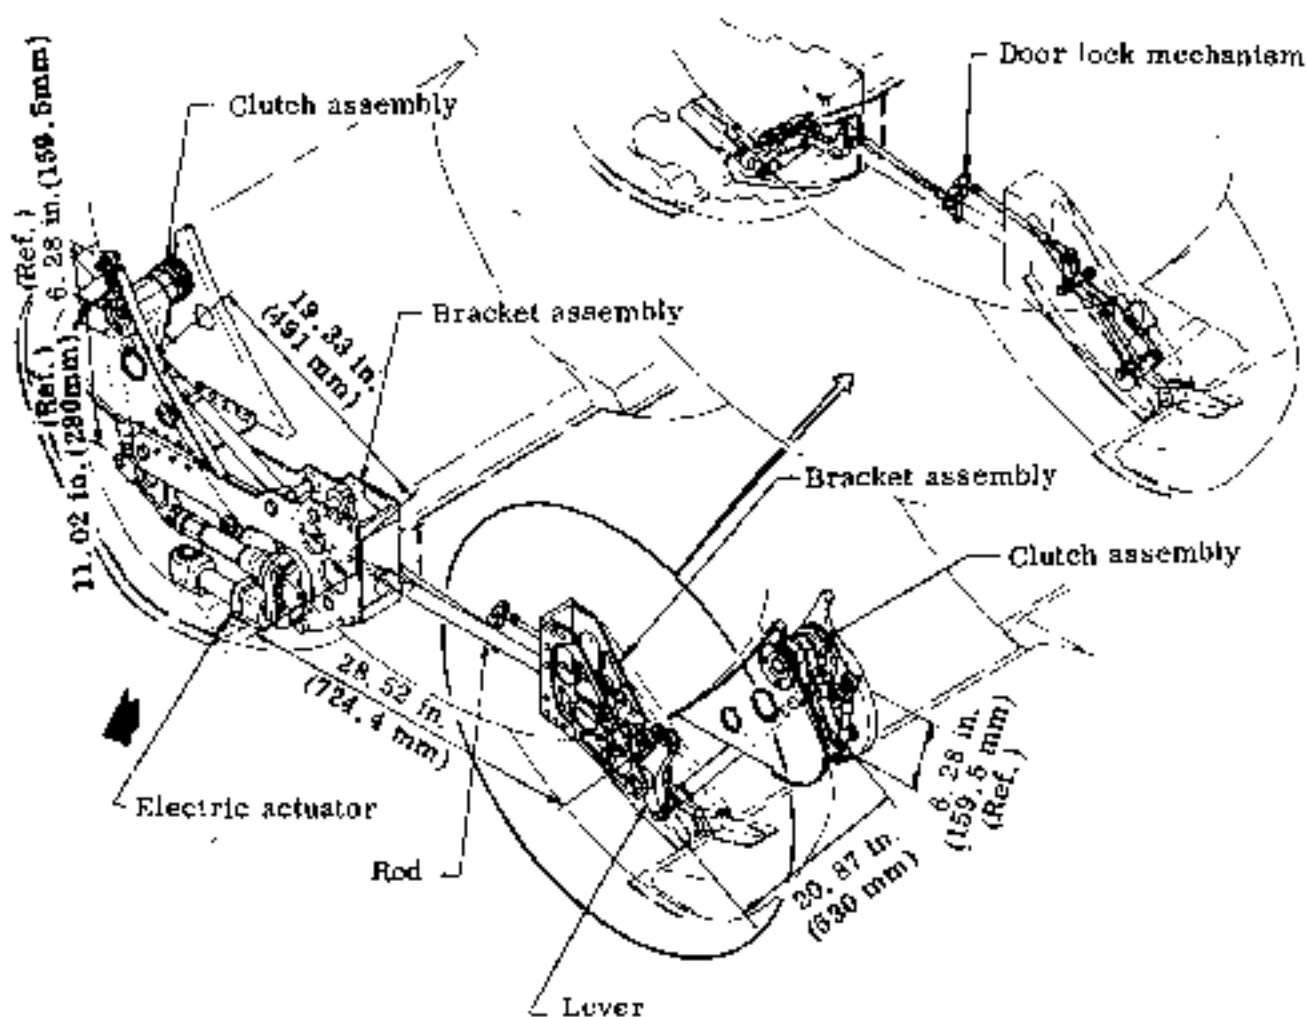
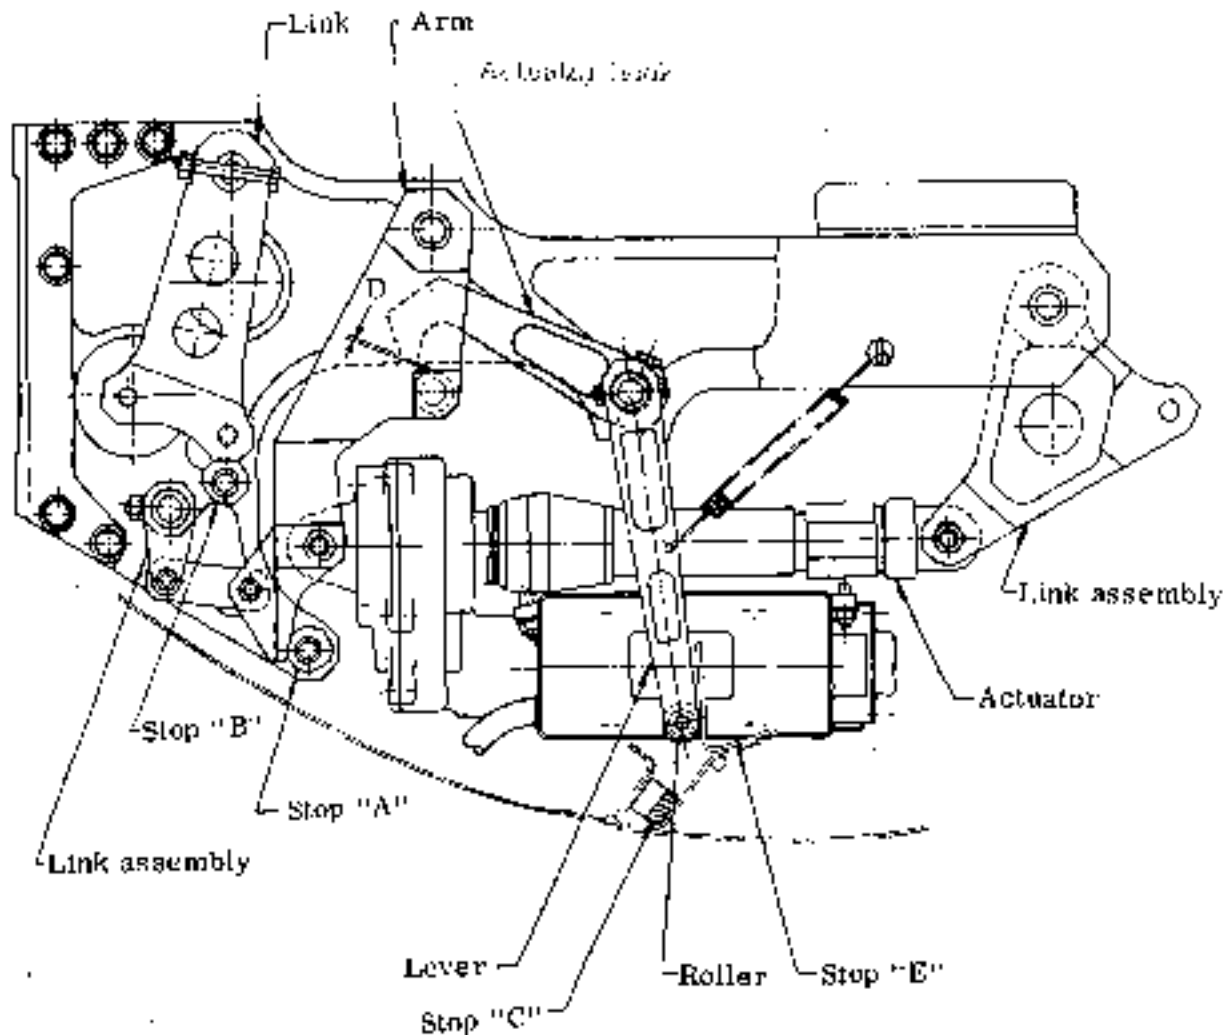

Fig. 4-28 Main landing gear forward door mechanism
Fig. 4-34 Adjustment of R. H. stop
3.9.2 MAIN LANDING GEAR FORWARD DOOR MECHANISM (See Fig 4-28)
- (3) Adjustment of R. H. stop (See Fig 4-34).
- (4) Adjust stop "E" so that the clearance "D" may be 0.12 ~ 0.2 in. (3 ~ 5 mm) by visual inspection when door (with no load) strikes stop "C".
- (5) Adjust each rod to the dimensions shown in Fig. 4-28 and connect to the forward door.